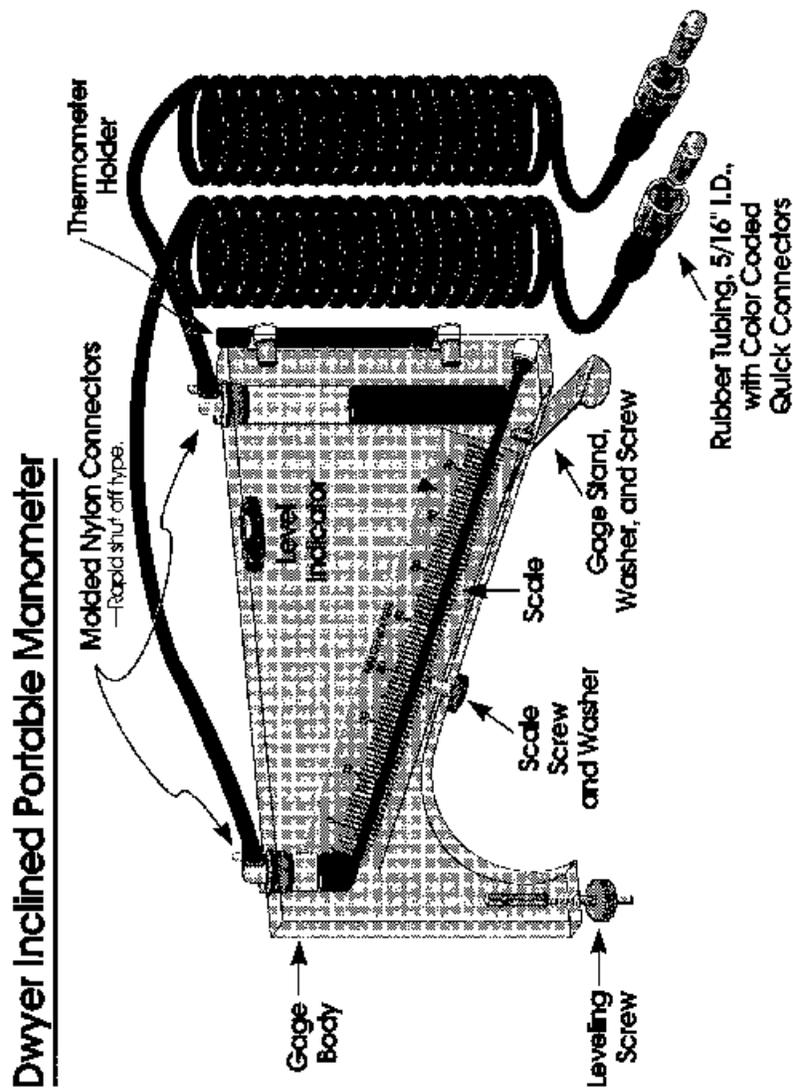

Figure 1. Dwyer Inclined Portable Manometer
5. Set up the manometer as shown in figure 1. Clean with glass or acrylic cleaner, if necessary, and check for loose fittings. Level the manometer, open the molded nylon connectors 1½ turns, and allow the oil to come to a steady level. If the manometer cannot be zeroed, add enough oil so that it can be zeroed easily.